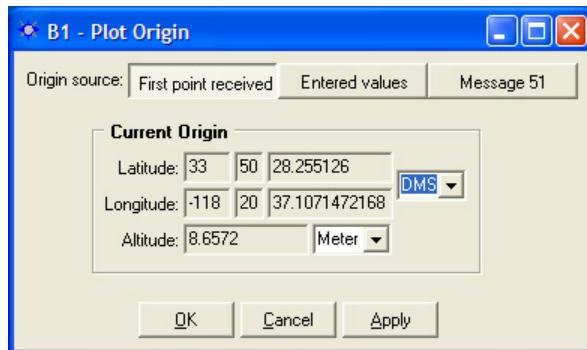

Figure 97: B1 – Plot Origin Window
- ✓ Click the  icon to open the *B1 – Plot Origin* window (see Figure 97).